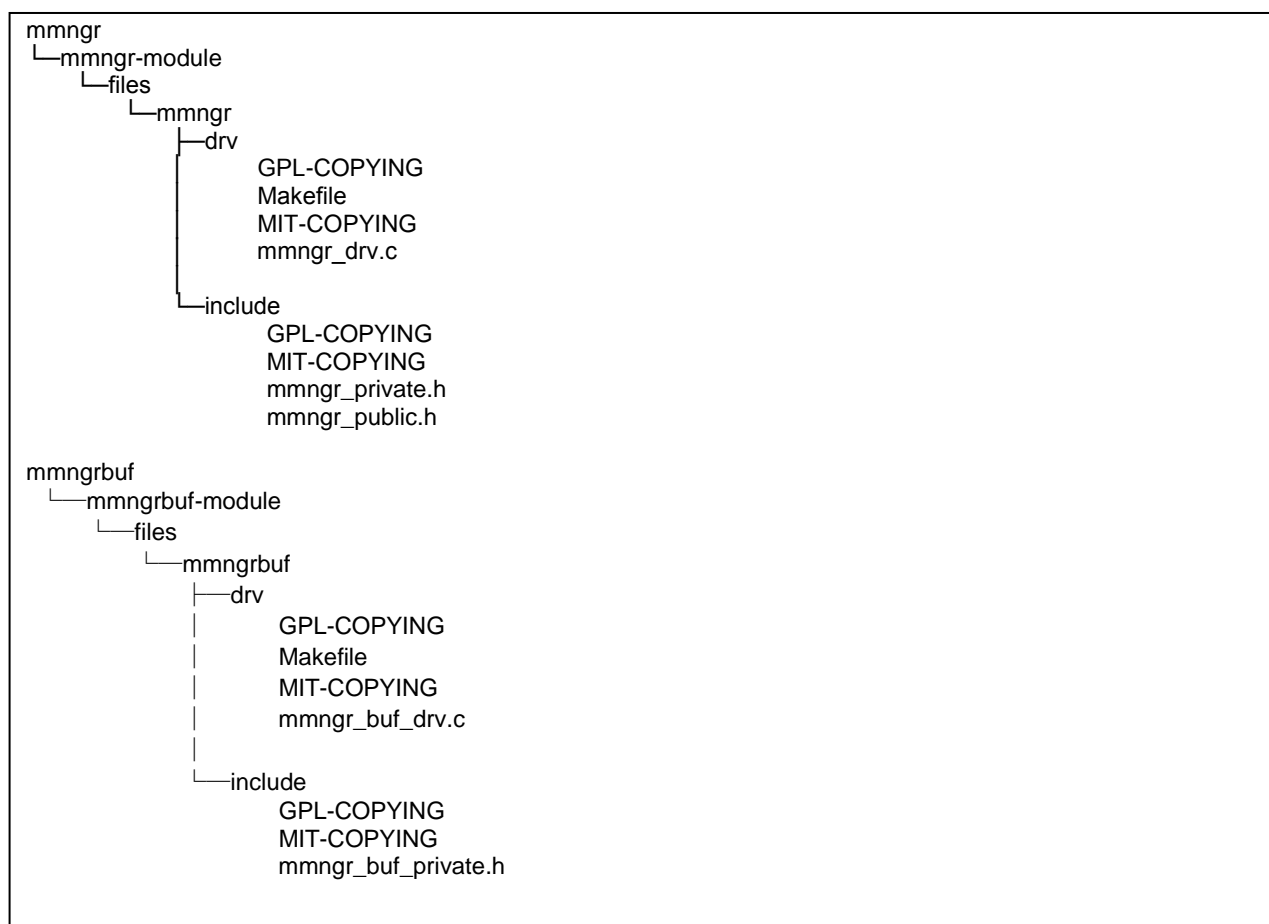

Figure 1-2 Kernel module source code not included in this software
- Figure 1-2 shows the lists of these source files.